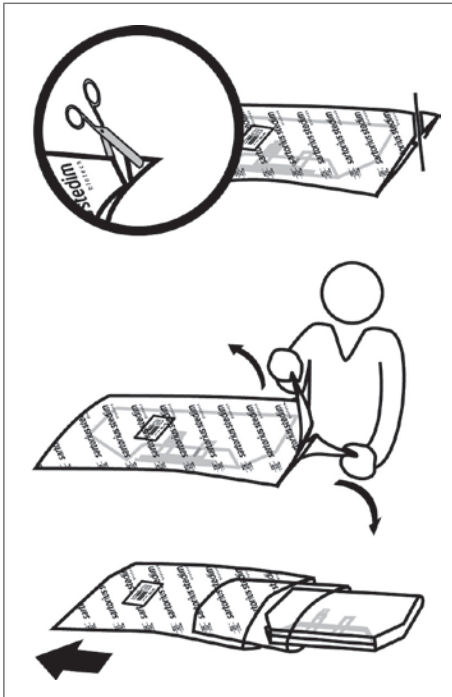

Figure 45
3. To open and remove the secondary (external) packaging (see Fig. 45):